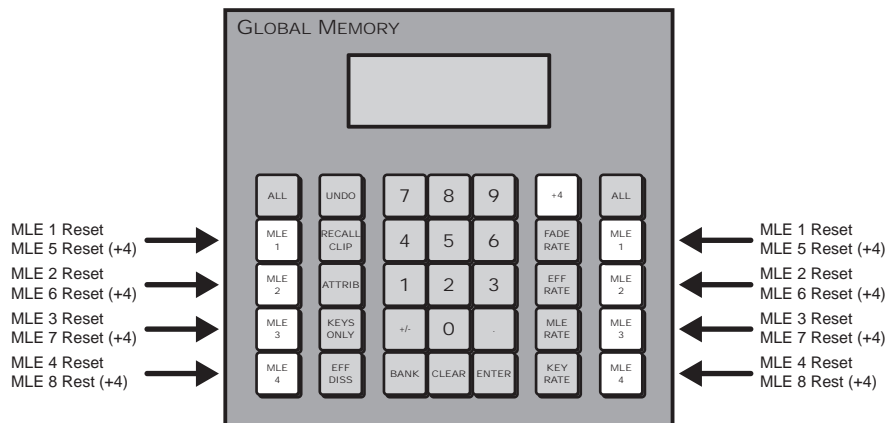

Figure 2.10 Press to Reset an Individual MLE
- **Individual MLEs (1-4)** — To reset MLEs 1-4 individually, press and hold both the **MLE #** button in the **Recall** and the **MLE #** button in the **Store** areas (**Figure 2.10**). Where the **#** is the number of the MLE you want to reset. For example, to reset **MLE 1**, you would press and hold the **MLE 1** buttons. You can only reset MLEs that are assigned to your control panel.
- **Individual MLEs (5-8)** — To reset MLEs 5-8 individually, toggle **+4** on and press and hold both the **MLE #** button in the **Recall** and the **MLE #** button in the **Store** areas (**Figure 2.10**). Where the **#** is the number of the MLE you want to reset. For example, to reset **MLE 5**, you would toggle **+4** on, and press and hold the **MLE 1** buttons. You can only reset MLEs that are assigned to your control panel.